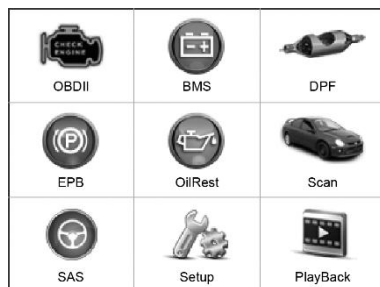
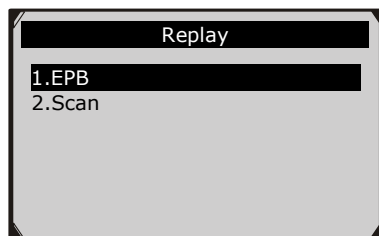

Figure 3-2
Figure 4-1
- 4) Power up the scan tool , and wait for the **Main Screen** to appear.(Figure 3-2)
- 1) Use the **LEFT/RIGHT** scroll button to select **Playback** from **Main Screen** (Figure 3-2), and press the **OK** button. Wait for the **Scan** screen to appear. (Figure 4-1)
- 2) Select **Scan** icon in the **Main Screen** (Figure 3-2) and wait for the vehicle manufacturer screen. Choose the correct vehicle make.